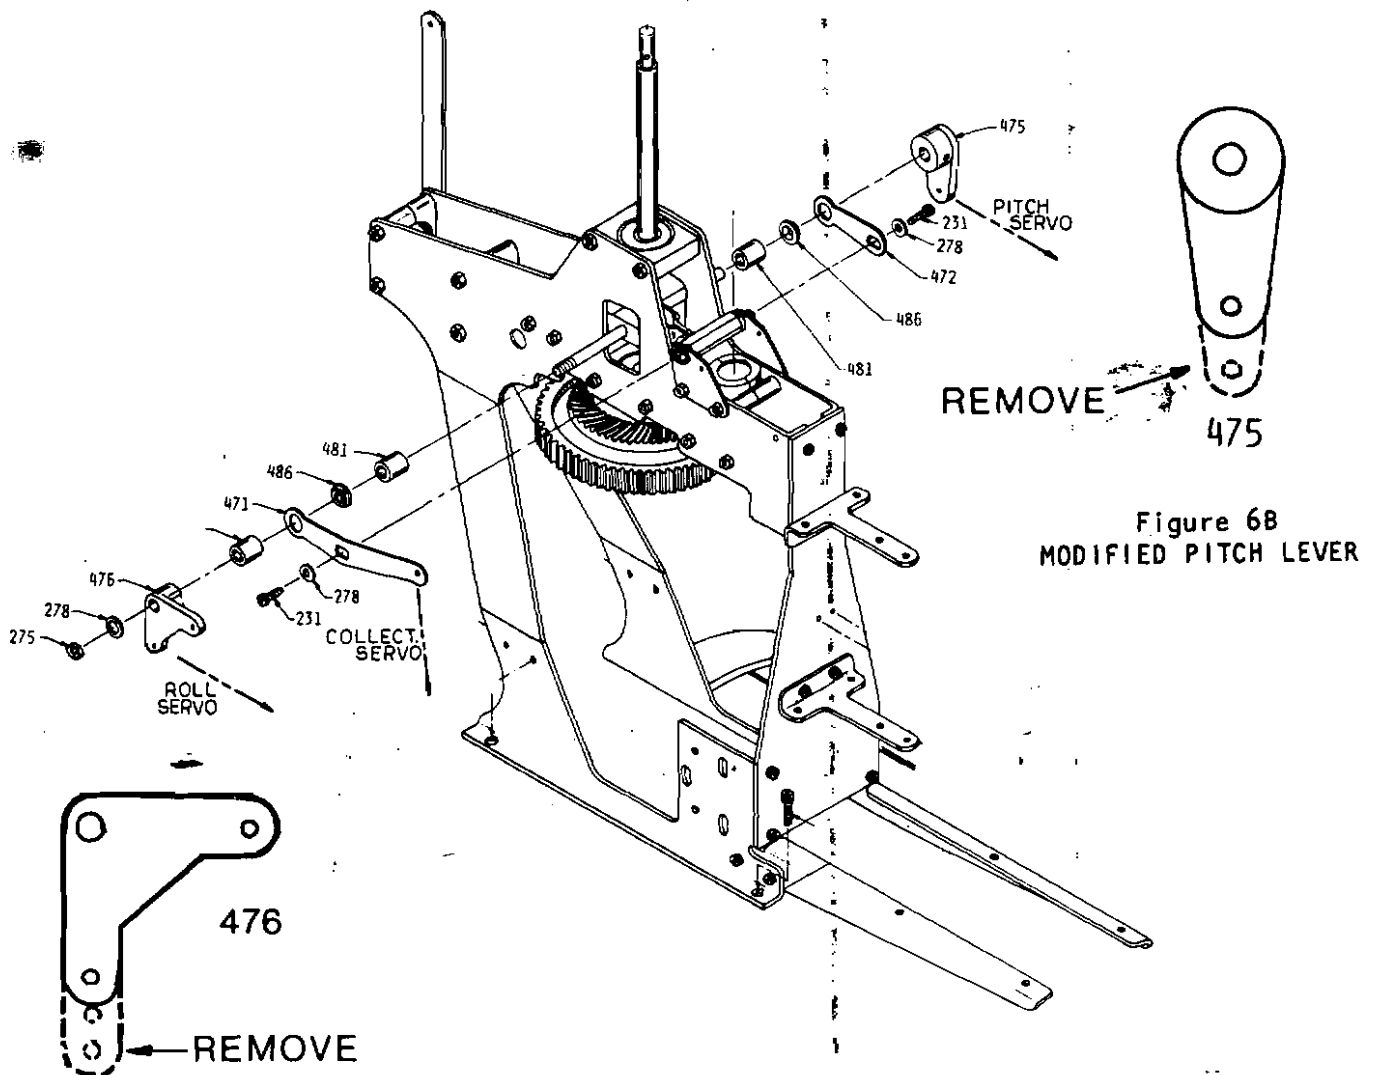

Figure 6A
- E. Take the plastic Roll Lever #476 (figure 6A) and remove (cut) the section which contains the second and third holes from long leg (lever will now have only one hole on this leg). Place plastic roll lever on collective transverse shaft followed by the 4mm flat washer #278 and 4mm lock nut #275. Tighten nut so that roll lever can move freely, but with very little end play.